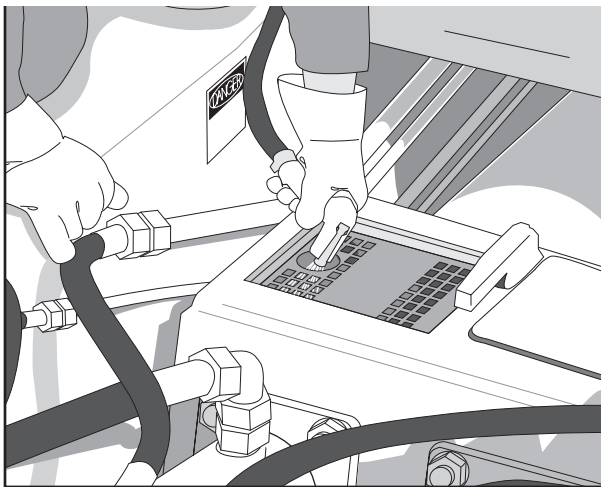

Figure 4
- Remove the waterbox cover and fill the waterbox with water (Figure 4). **Do not remove the waterbox grate for this procedure.** The waterbox fill valve can also be used.